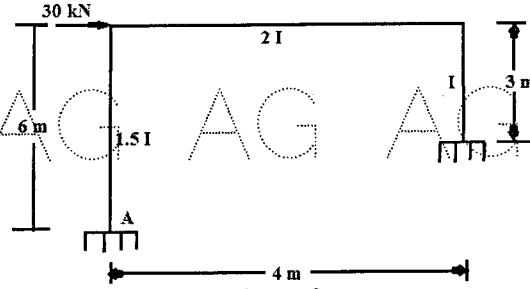

Figure 2
4. Using the slope-deflection method, find out the moments in the frame as shown in figure 2. [10]